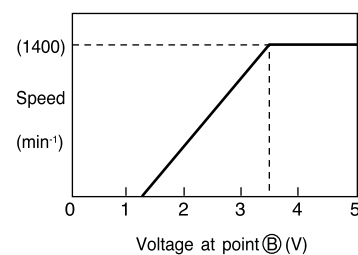

Fig. 7-3
- The pulse is converted into the analog voltage by the R751 and C751 and applied to the fan motor as the speed command voltage. Fig. 7-3 shows the relation between the voltage at the point (B) and the speed. (Some differences will occur due to the condition of the unit.)